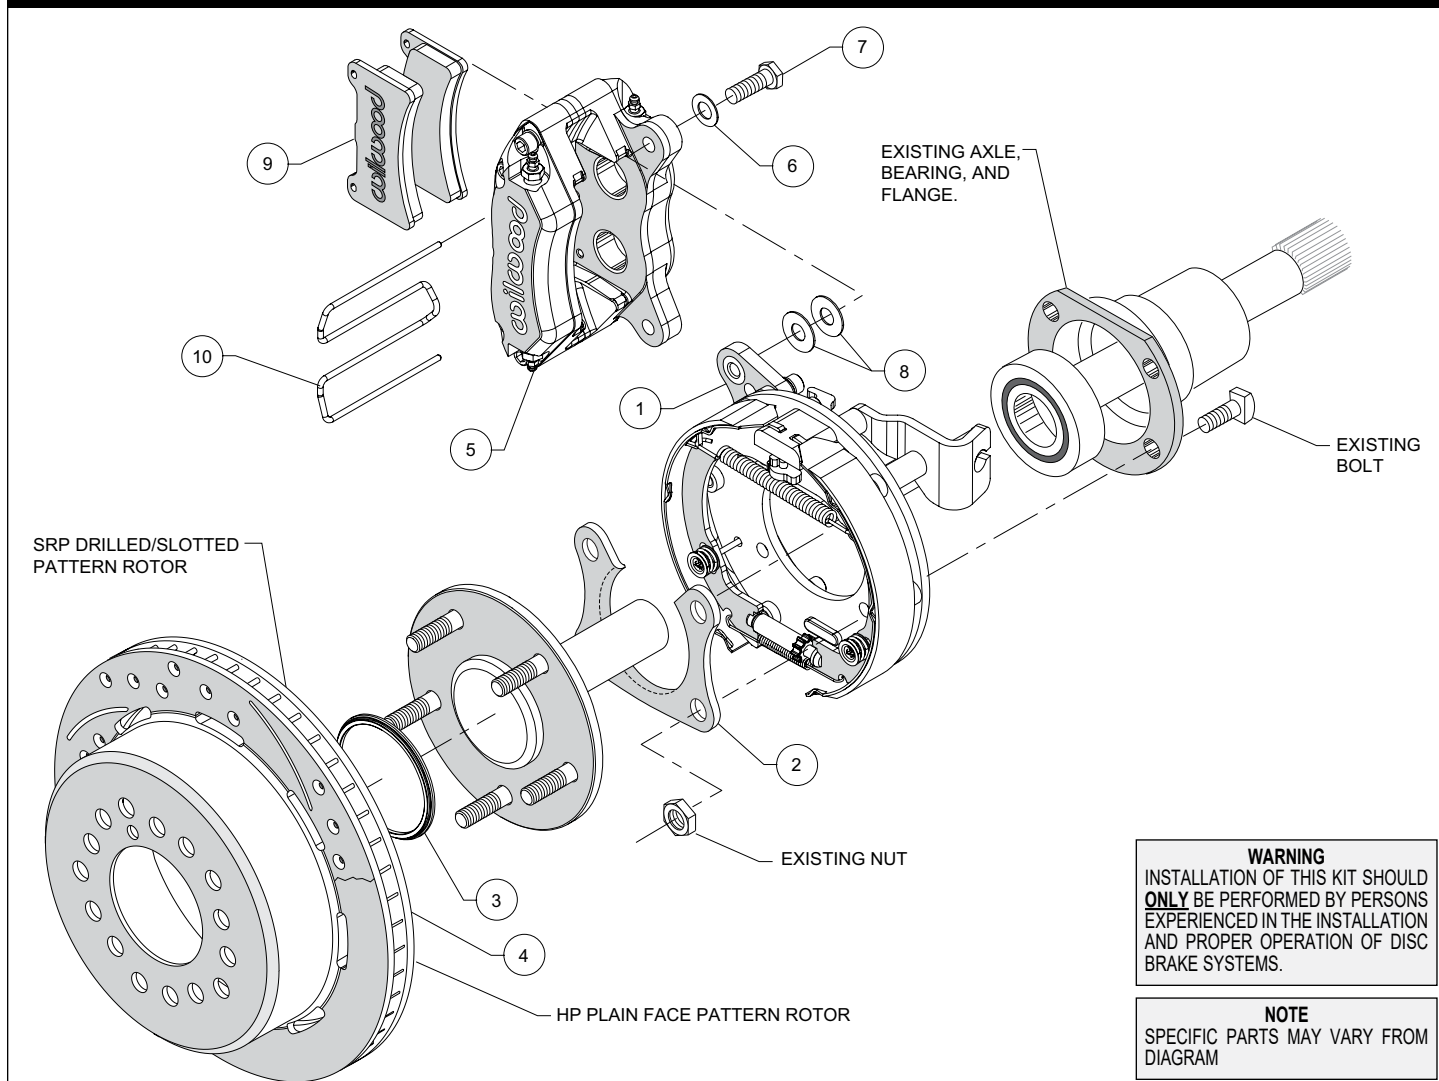
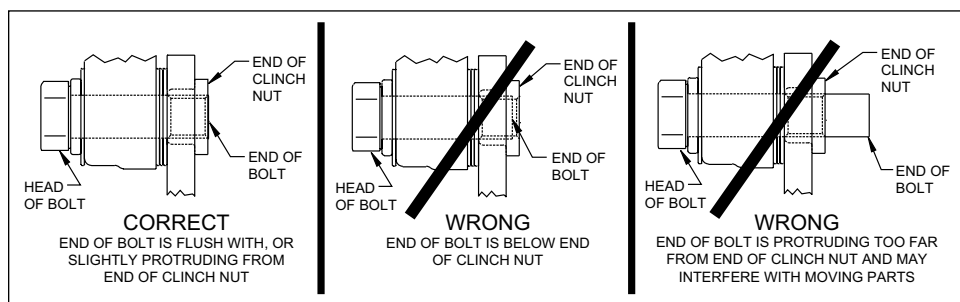

Figure 1. Typical Installation Configuration
Figure 5. Clinch Nut Engagement Diagram
NOTE: Numbers in parenthesis refer to the parts list and Figure 1 on the preceding pages.
CAUTION: All mounting bolts must fully engage clinch nuts. Be sure to check that all bolts are either flush or protruding through flanged side of clinch nut after shimming, Figure 5.
- Orient the bracket assembly (1) as shown in Figure 1 and Photo 1 and slide it onto the axle. Insert the axle and bracket into the axle housing. Ensure that the bracket assembly backing plate fits flush against the axle housing flange.
- Install the bearing retainer (2) with the opening pointing upward and the lip facing inward (toward the bearing), as shown in Figures 1 and 4, and Photo 2. Secure retainer and bracket assembly to the axle housing flange using the Original Equipment Manufacturer (OEM) bolts and nuts, Figure 1. Apply red *Loctite*® 271 to the OEM bolt threads and torque to OEM specifications.
•Slide the rotor registration adapter (3) onto the axle register on the axle flange with the smaller O.D. facing toward the rotor/hat (4), Photo 3. Align the correct hole pattern in the rotor/hat with the stud pattern on the axle flange and slide into place, Figure 1 and Photo 4. **NOTE:** The rotor/hat must fit flush against the axle flange or excessive rotor run out may result. Install three lug nuts (finger tight) to keep the rotor/hat assembly in place while continuing with the installation. **NOTE:** Some OEM and after market axles come with stud sizes larger than 0.50" diameter. Verify stud size and have a qualified machine shop drill the bolt circle of the hat/rotor to the correct stud size, if necessary.
•**NOTE:** Please reference the caution statement at the beginning of the assembly instructions. Mount the caliper (5) onto the caliper mounting bracket (1) using bolts (7) and washers (6), as shown in Figure 1. Initially place two .035" thick shims (8) on each bolt between the caliper and the bracket, Photo 5. Temporarily tighten the mounting bolts and view the rotor (4) through the top opening of the caliper. The rotor should be centered in the caliper, Photo 6. If not, adjust by adding or subtracting shims between the bracket and the caliper. Always use the same amount of shims on each of the two mounting bolts. **NOTE:** The end of each bolt must be flush with or slightly protruding from the head of the clinch nut, as shown in Figure 5. If necessary place spare shims between washer (6) and caliper mounting ear to achieve the proper clinch nut engagement. Once the caliper alignment and clinch nut engagement are correct, remove the bolts one at a time, apply red Loctite® 271 to bolt threads, and torque to 40 ft-lb.